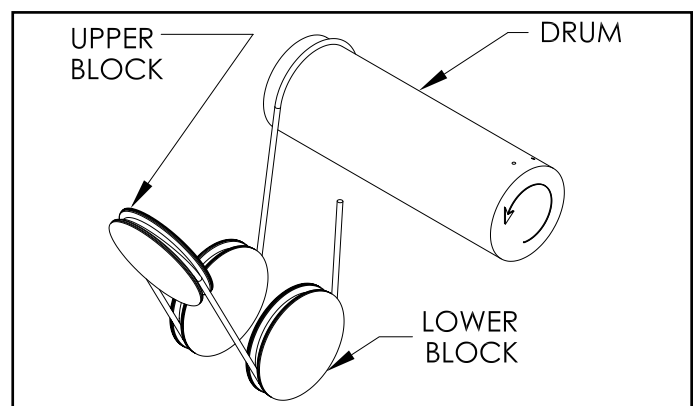

Figure 5-5a. Reeving Diagram - 4 Part Single Reeved.
b) Before removing the old rope, refer to reeving diagram, Figures 5-5a & 5-5b. To assist with re-reeving your hoist, refer to the reeving diagram and corresponding paragraph that describes the reeving procedure.